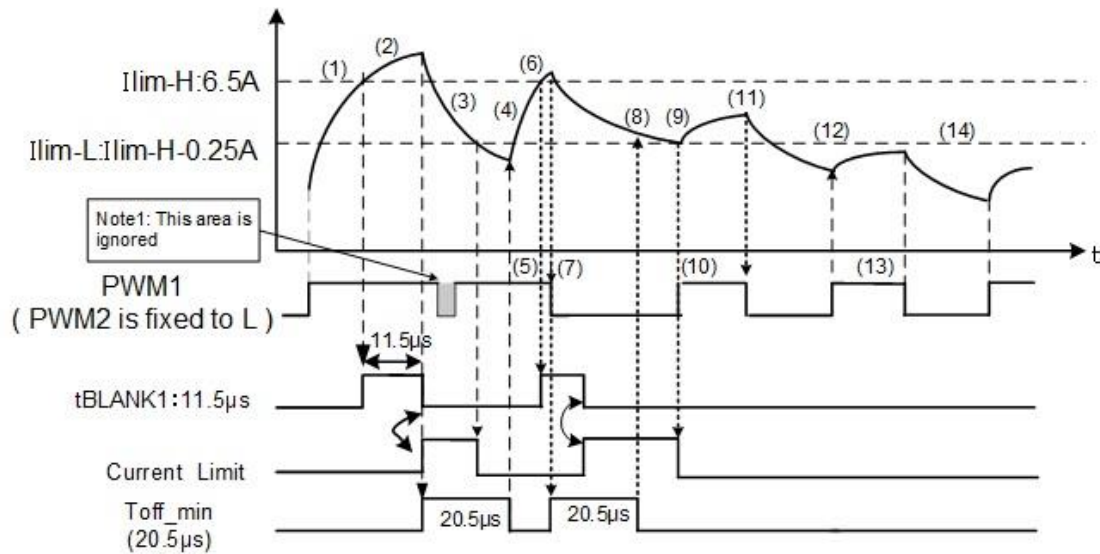

Figure 7.14 Chopper-type current-limit control
7.7.1. Chopper-type current-limit control (basic operation) (Figure 7.14)
- (1) Large current is detected at I_{lim-H} (6.5 A).
- (2) The blanking counter starts counting at the detection. Since a current above I_{lim-H} (6.5 A) still flows in this case, the current limit signal rises at the falling edge of t_{BLANK1} after a blanking time (t_{BLANK1} : 11.5 µs). At the same time, $Toff_min$ rises to H to start counting.
- (3) After the blanking, the motor drive output automatically enters a short-brake mode (low side simultaneous ON) for current regeneration.
- (4) Once the $Toff_min$ (20.5 µs) period has elapsed, the output operates in accordance with the state of the PWM terminal if the current falls below I_{lim-L} .
- (5) Since PWM1 is H, the motor drive current increases.
7.7.2. PWM signal input during forward rotation (Case 1) (Figure 7.14)
7.7.3. PWM signal input during forward rotation (Case 2) (Figure 7.14)
- (11) At the falling edge of PWM1, short-brake mode begins.
- (12) When PWM1 = H, normal mode resumes.
- (13) Since PWM1 is still H, the motor drive current increases.
- (14) When PWM1 = L, the operation becomes short-brake mode, and the motor drive current decreases.